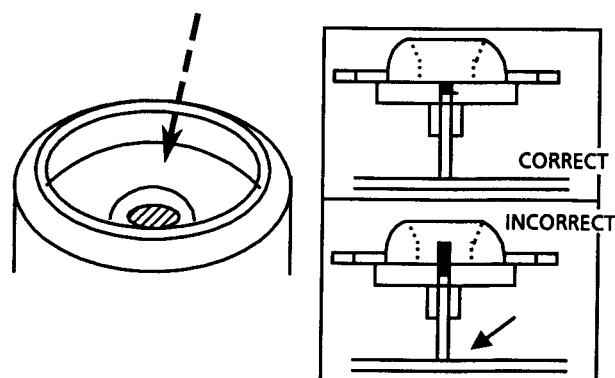

Fig. 46
- (31) After inserting the turntable, bond the motor shaft and turntable together (at the section marked by an arrow in fig 46 on the left below).
Be extremely careful not to allow bonding agent to adhere to the motor bearing (the section marked by an arrow in fig 46 on the right).